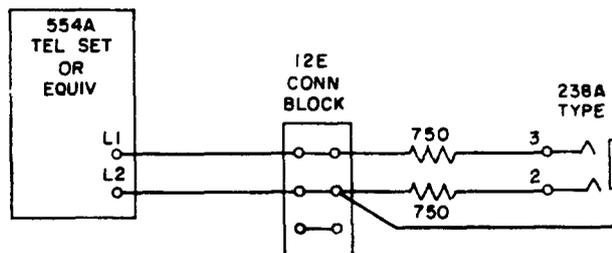

Fig. 1 - Test Station
2.01 One No. 554A wall-type telephone set, two 750-ohm, 1-watt resistors, one No. 12E connecting block, and one No. 238A jack or equivalent assembled as shown in Fig. 1 and mounted on a board convenient for locating at the relay rack.